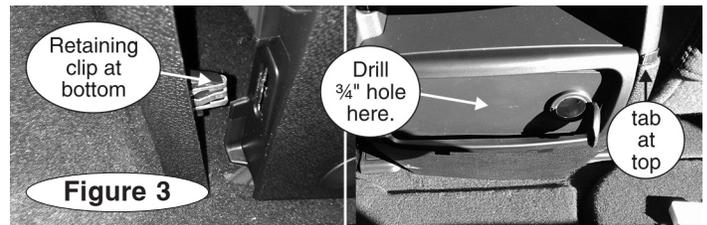

Figure 3
5. Remove the rear panel of the center console by pulling at the edges. The panel is held by retaining clips at the top and bottom and by tabs that fit under the top section (Figure 3).